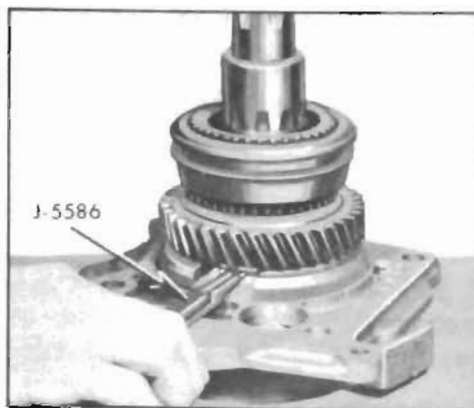

Figure 4-58—Installing Rear Bearing Retainer
11. Install the rear bearing retainer (see Figure 4-58). Spread the snap ring in the plate to allow the snap ring to drop around the rear bearing and press on the end of the mainshaft until the snap ring engages the groove in the rear bearing.